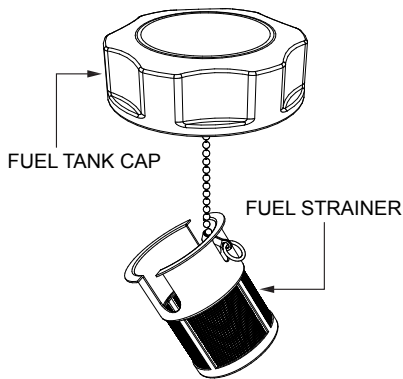

Figure 55. Fuel Strainer
3. Remove, inspect, and clean the fuel strainer (Figure 55) with solvent.